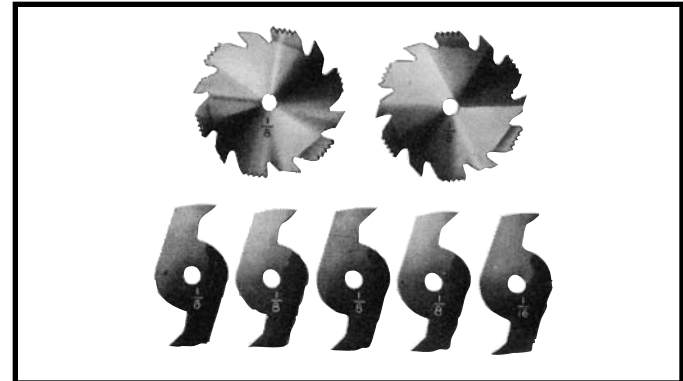
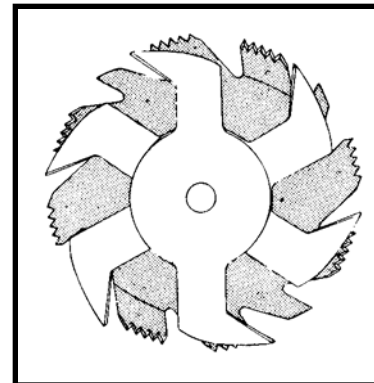
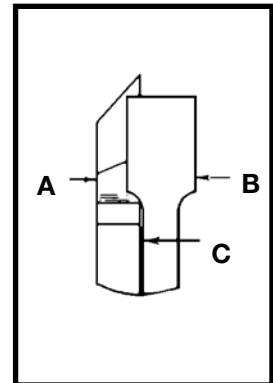

Fig. 85
Fig. 86
Fig. 87
1. Dadoing is cutting a rabbet or wide groove into the work. Most dado head sets are made up of two outside saws and four or five inside cutters, (Fig. 85). Various combinations of saws and cutters are used to cut grooves from 1/8" to 13/16" for use in shelving, making joints, tenoning, grooving, etc. The cutters are heavily swaged and must be arranged so that this heavy portion falls in the gullets of the outside saws, as shown in Fig. 86. The saw and cutter overlap is shown in Fig. 87, (A) being the outside saw, (B) an inside cutter, and (C) a paper washer or washers, used as needed to control the exact width of groove. A 1/4" groove is cut by using the two outside saws. The teeth of the saws should be positioned so that the raker on one saw is beside the cutting teeth on the other saw.